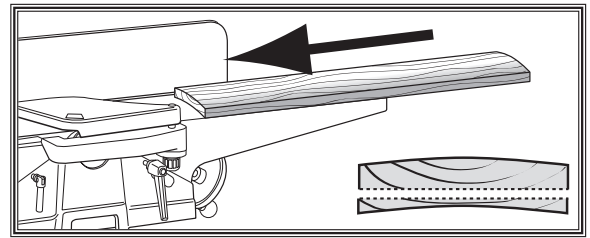

Figure 32. Surface plane on the jointer.
1. **Surface Plane on the Jointer:** The concave face of the workpiece is surface planed flat with the jointer (**Figure 32**).